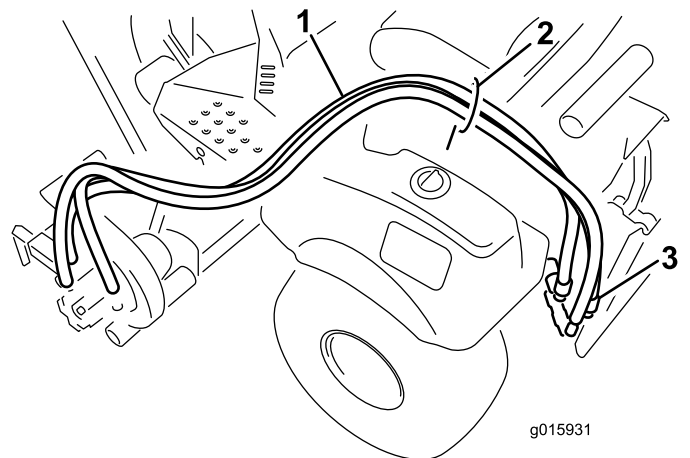

Figure 7
1. Route the hydraulic hoses through the hose guide and to the rear of the machine (Figure 7).
2. Connect the hoses to the rear remote connectors (Figure 7).